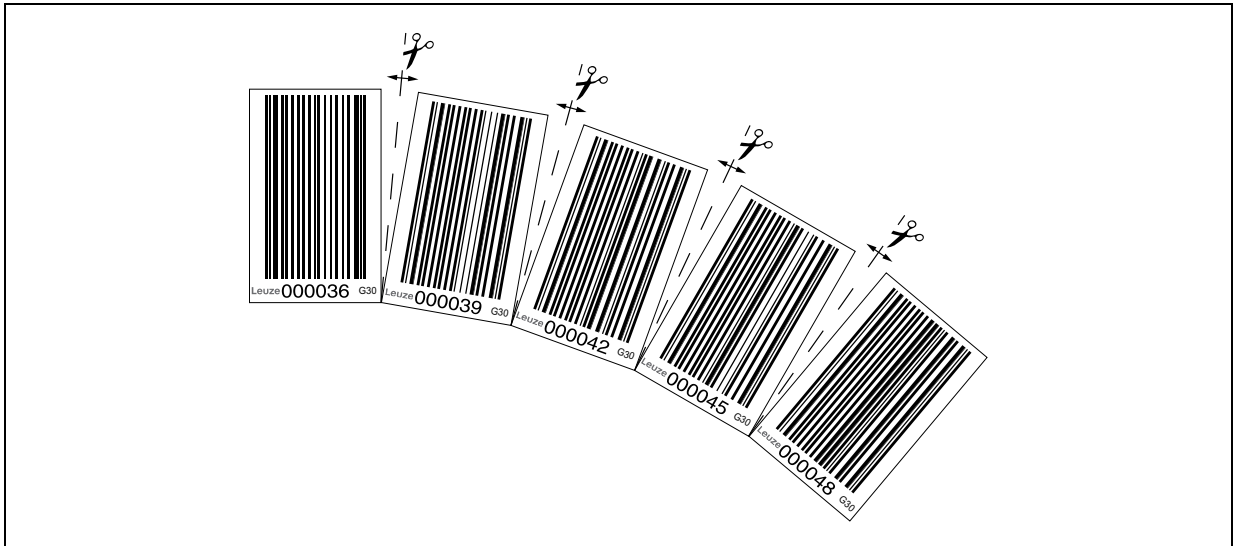

Figure 6.5: Preparing the bar code tape for use in vertical curves
- ↪ Affix the BCB along the curve like a fan (see figure 6.5).